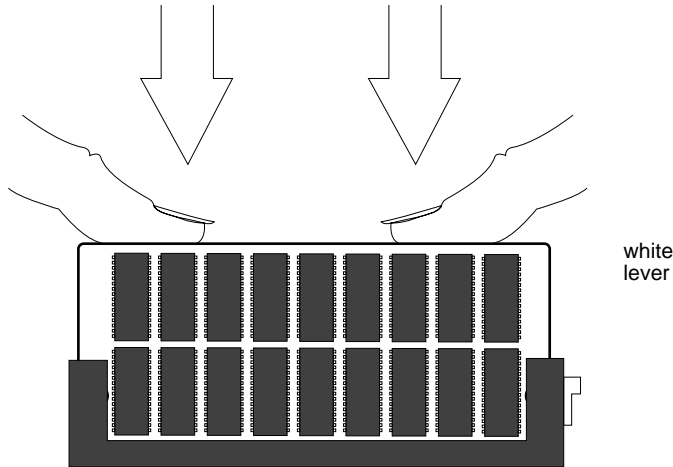

Figure 3-7 Pressing the SIMM Into the Socket
- Gently work the SIMM straight down into the socket by pressing across the top of the SIMM until the bottom edge of the SIMM touches the connectors on the socket, as shown in Figure 3-7.